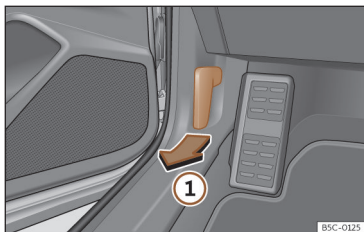

Fig. 209 Release lever in the driver's footwell area.
- Open the door and pull the lever under the dashboard»» **Fig. 209** ①.